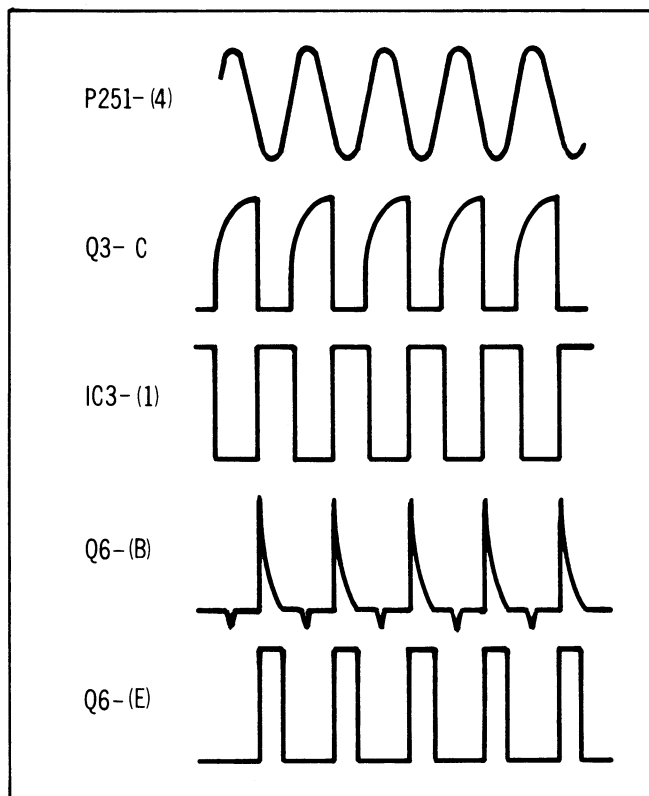

Figure 2-191
The amplified signal then goes into pin (2) of IC3 which functions as a schmitt trigger circuit, shaping the output to a square wave. This is differentiated by C9 and negative going pulses are shunted to ground by diode D1. The waveforms of this process are shown in Figure 2-191. Only the positive pulse is used for the sawtooth generator circuit.